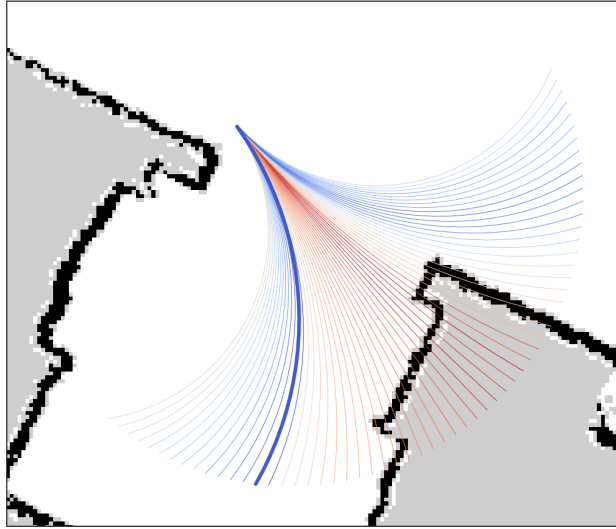

Figure 3: MPC rollouts, colored by cost. Red rollouts are of high cost (from collision) and blue are of low cost.
- A. Plot the trajectories generated by your Model Predictive Controller using the kinematic car model. Your result should resemble Figure 3. We provide a helper function `viz_paths_cmap` in `rosviz.py` that you can use.
- B. What are the number of rollouts (K) and number of time steps (T) you selected? Document your process for finding these parameters.
- B. Plot your trajectories colored by cost when the car is near the obstacle, like Figure 3.